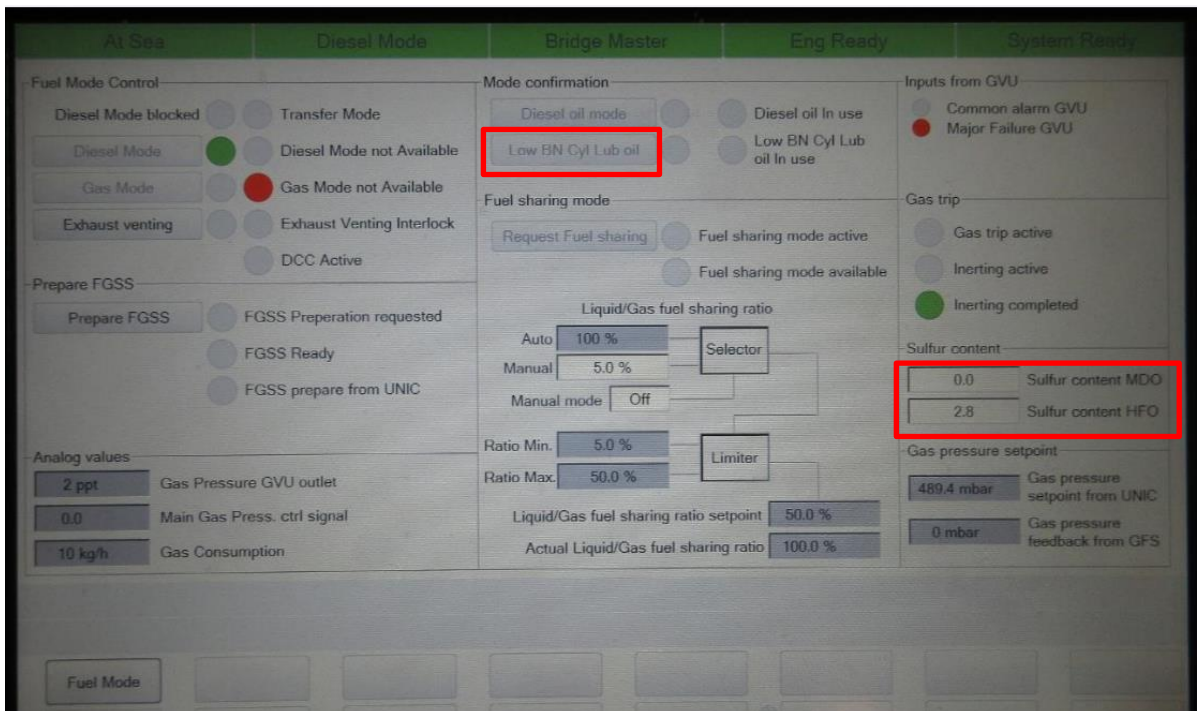

Figure 2: Kongsberg main Fuel Mode control screen (example)
Figure 2: Dual cylinder lubricating oil installation without iCAT, enabling independent gas and liquid fuel (maximum 0.50% sulphur m/m) operation with a manual changeover valve
- 4) Set the value for the “Sulfur content” to 0% for both MDO and HFO in the RCS (refer to Figure 2).
- 5) Manually select Low BN cylinder oil as the active cylinder oil (also Figure 2).